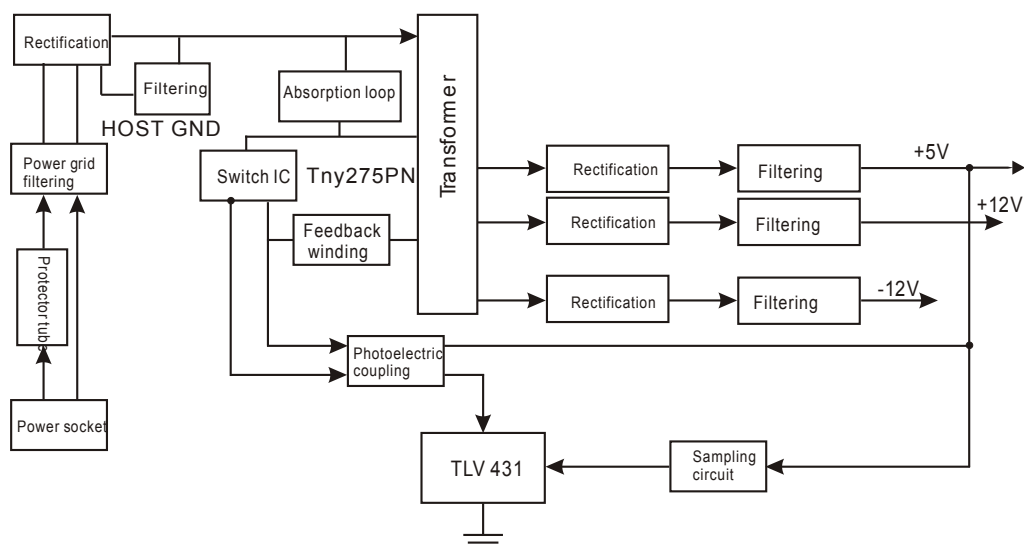

Figure 3.2.15.1 Power circuit block diagram
1. Power circuit block diagram is shown as in the following figure 3.2.15.1: